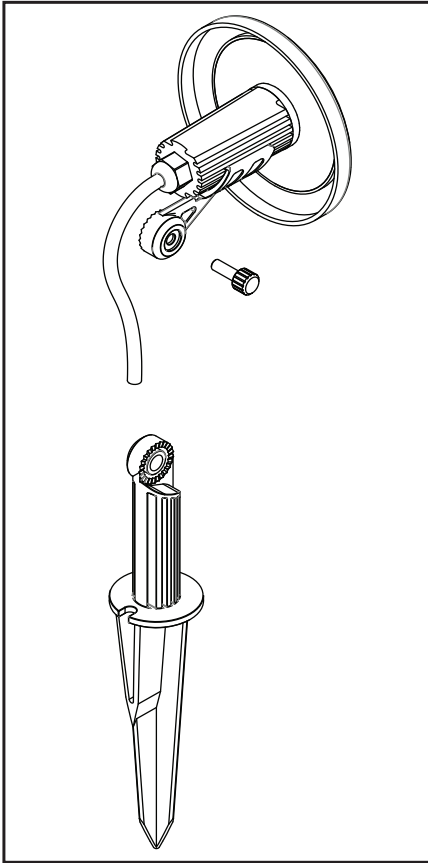

Figure 1. Fixture Assembly
1. Assemble fixture as shown in figure 1.